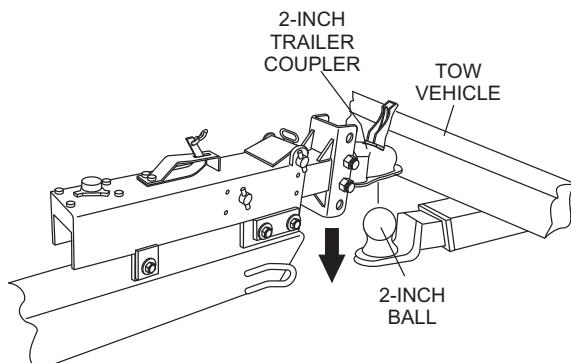

Figure 53. Ball Hitch Coupling Mechanism
- Lower the trailer (Figure 53) until the coupler fully engages the hitch ball.